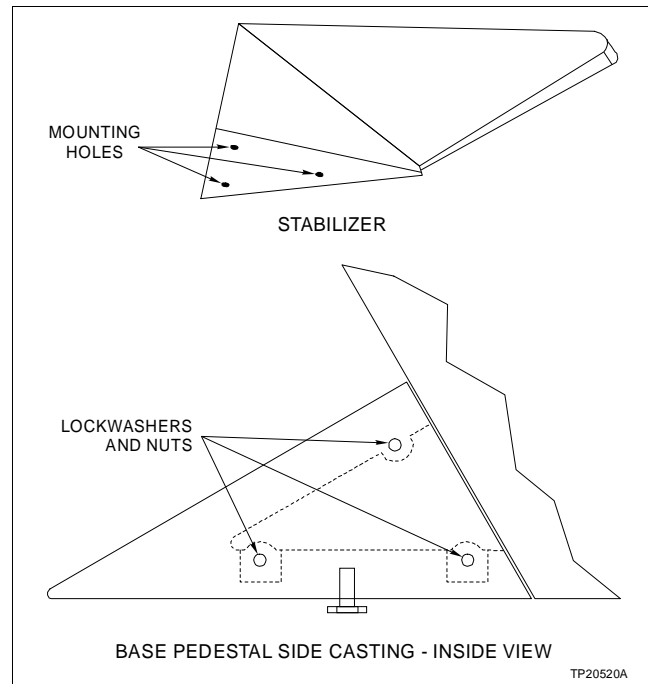

Figure PR16-1. Stabilizer Installation
1. Remove the caps covering the mounting holes (Fig. PR16-1).